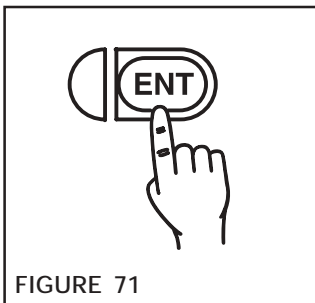

FIGURE 71
4. Press the **ENTER** Key for automatic span adjustment (See Figure 71).